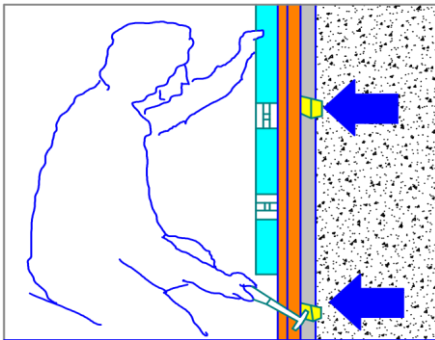

Figure 3.
3. By using a long spirit level, level the alignment wedges on both vertical planes regulating the hinge jamb first, observing that the jamb shall not bend or twist. (see Figure 3).